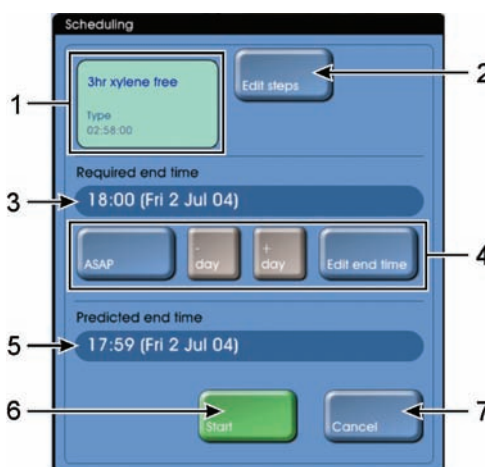

Figure 67: Scheduling dialog box
The dialog box contains the information and controls detailed in the following table (refer to Figure 67 for item locations).
1. Select the **Edit steps** button from the "Scheduling" dialog box (see Figure 67).
7. Altering step time will affect protocol scheduling so you must confirm the new "Predicted end time" is acceptable (see item 2 in Figure 67).
5. Skipping protocol steps will affect protocol scheduling so you must confirm that the new "Predicted end time" is acceptable (see item 2 in Figure 67).